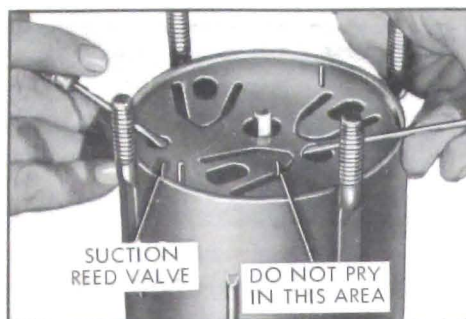

Figure 11-62—Removing Rear Suction Reed
17. If rear suction reed valve didn't come out with valve plate, carefully remove reed as shown with two small screwdrivers. See Figure 11-62. Replace reed valve if damaged.